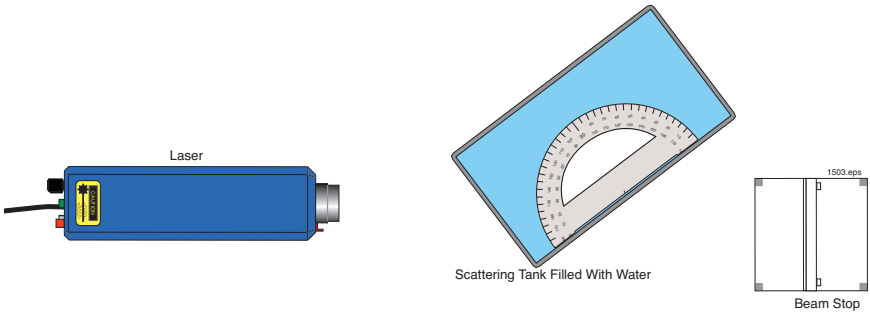

Figure 10. Top view of the setup for determining a critical angle.
2. Collect all of the items listed in the EQUIPMENT NEEDED section. Position all the items as shown in Figure 10.
4. Position the laser so that it points toward the left end of the scattering tank, as shown in Figure 10, but pointed at the end of the tank so that the beam will strike it at an angle of approximately 45 degrees.